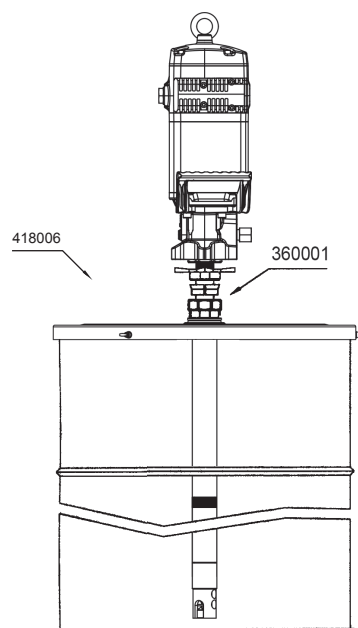

Fig. 3
- Mounting with cover (418006 for 185 kg drum and 418016 for 50 kg drum) and bung adaptor 360001. Fasten the cover onto the drum and screw the nut of the bung adaptor securely into the 2" bung opening of the cover. Insert the pump through the nut and adjust it with the star nut to the desired height (see figure 3).
Introduire le tube par l'écrou et le placer à la hauteur désirée à l'aide de la fausse bonde (fig. 3).